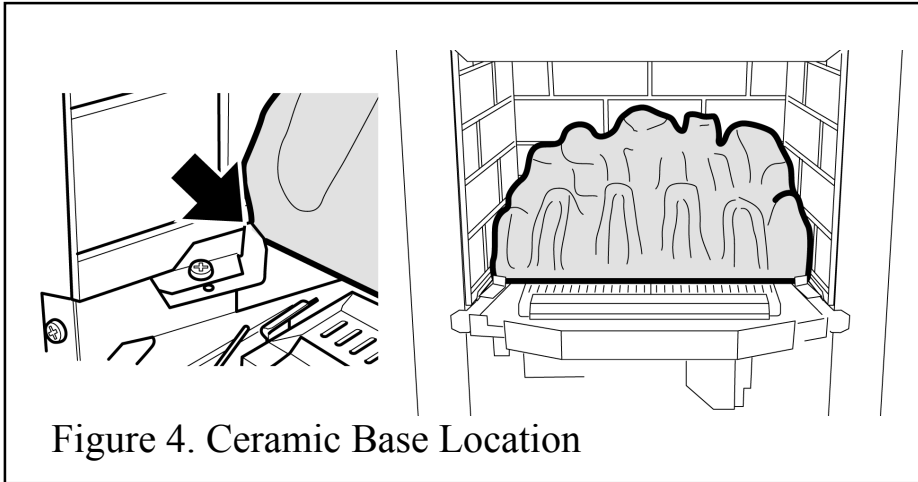

Figure 4. Ceramic Base Coal Location
1. Place the ceramic base coal in the burner compartment. The bottom rear face of the coal should rest on the angled ledges at the back of the burner compartment. The bottom front edges of the coal base should locate against the left and right hand side brackets. (See figure 4).